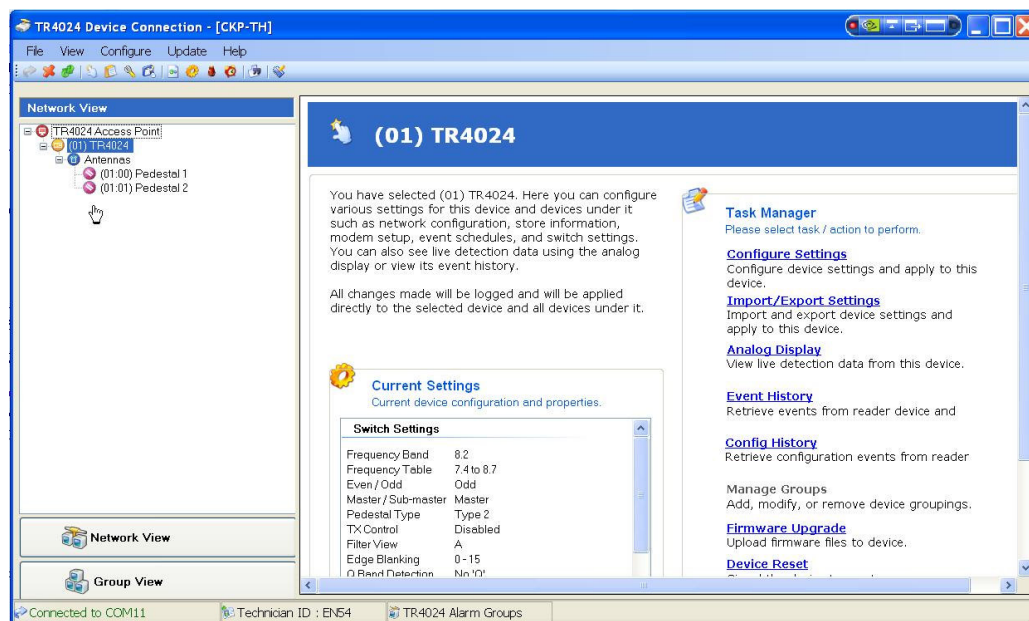

Figure 27 Single Aisle Setup Completion
6. Go back to the “Network View” window, and expand the network device level. The device names under Antenna have been changed. Shown in *Figure 27 Single Aisle Setup Completion*. This confirms the success for setting the PX/QX with Coupler operation mode.